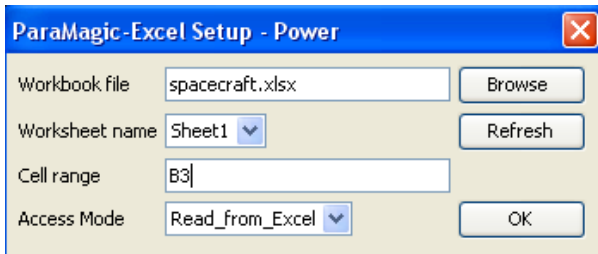

Figure 6.14 ParaMagic- Excel Set-up for slot
- e. In the Containment window, right-click on the Power slot under instance block in1_01 and select ParaMagic→Excel→Setup. See Figure 6.14.